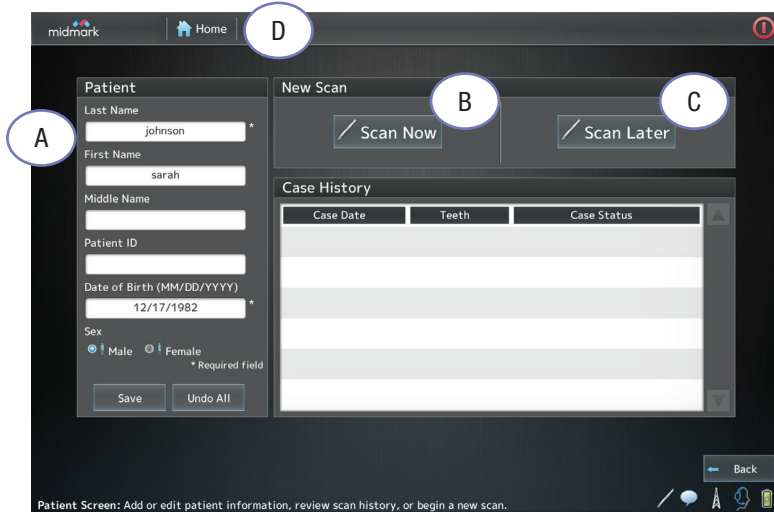

Figure 6. Patient screen
1. Touch the **Add New** button at the bottom of the Patients Search Screen (Figure 7). The Patient Screen is displayed. (Figure 6).